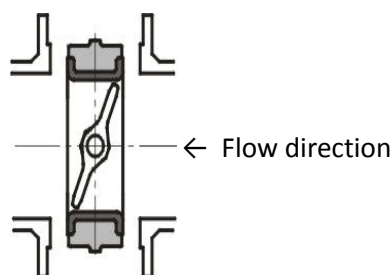

Fig. 2
- When installed in a horizontal pipeline it is recommended that the butterfly valve is to be mounted with the stem in a horizontal position, as such that the bottom of the disc will open in the direction of the flow. This prevents sludging of the flow and accumulation of dirt. (See figure 2).